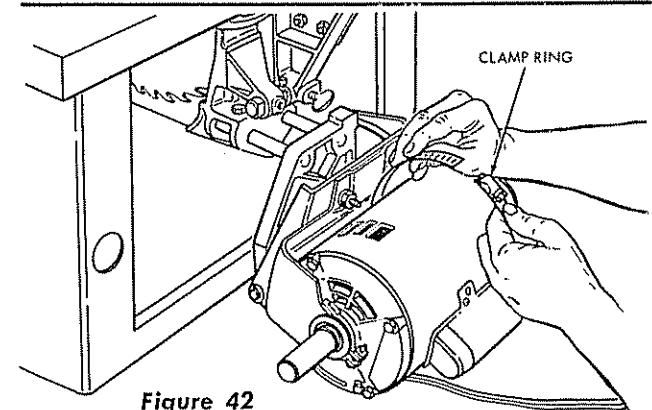

Figure 42
- a. Place the guard clamp ring around right-hand end of motor, slide the free end into the screw-type fastener. (See figure 42.) While holding the two ends together, rotate the screw in fastener with a screw-